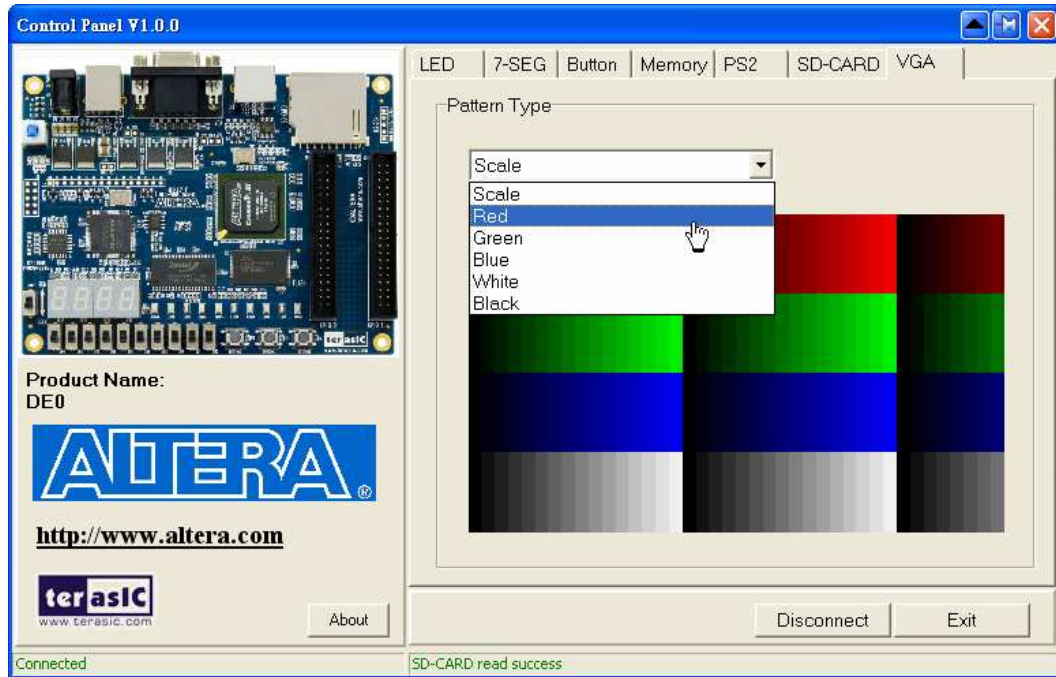

Figure 3.10. Controlling VGA display
1. Choosing the VGA tab leads to the window in Figure 3.10.
4. Click the drop down menu shown in Figure 3.10 where you can output the selected color individually.